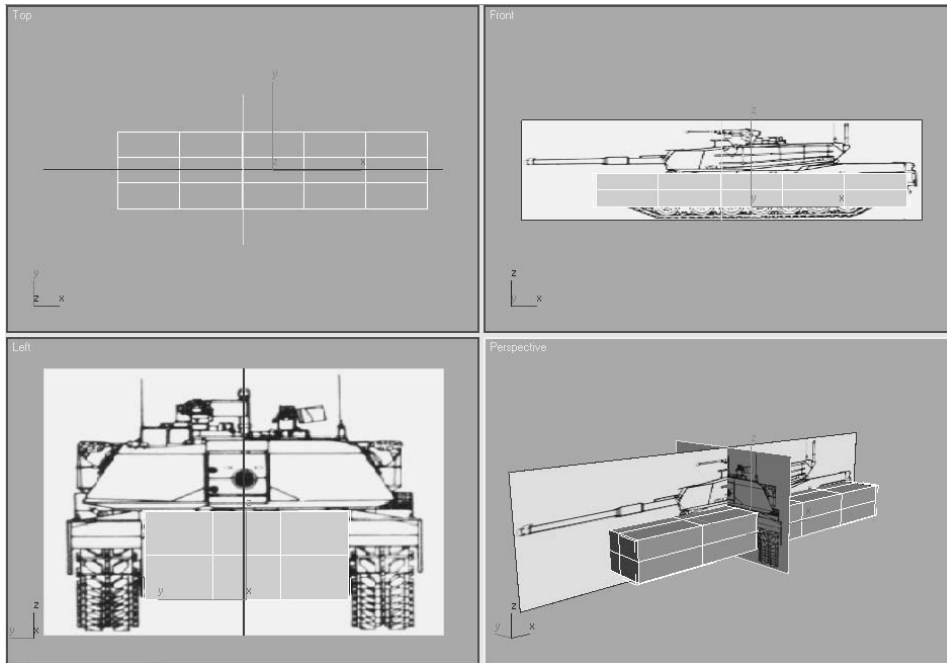

Figure 5.3
5. Move the box into the proper location, as shown in Figure 5.3. Make any necessary changes to the box's parameters so that it matches the volume of the tank body.